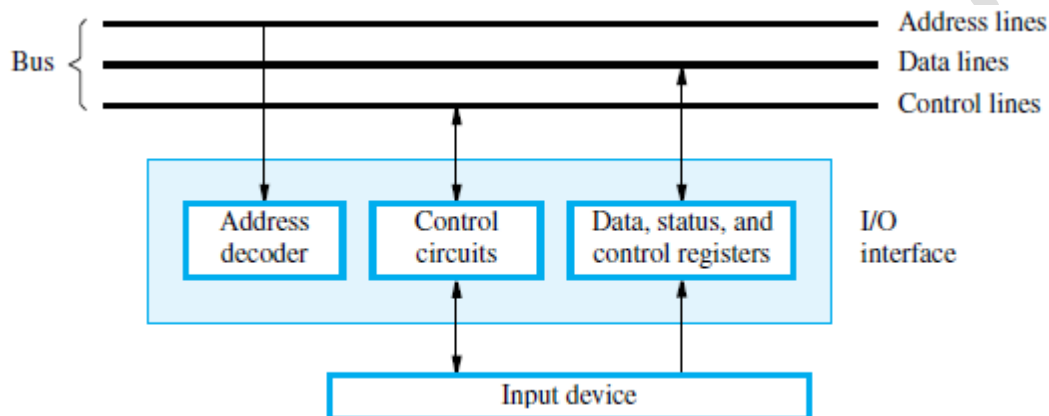

Figure 7.2 I/O interface for an input device.
1) **Address Decoder:** enables the device to recognize its address when this address appears on the address-lines (Figure 7.2).